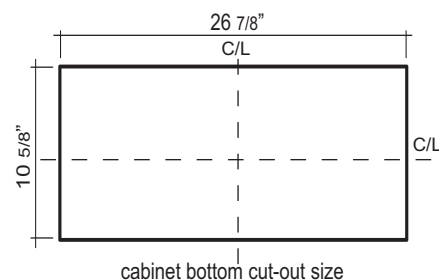

FIG 1
2. If no liner is used cut out an opening in the bottom of the cabinet by following the dimensions in **FIG 1**.